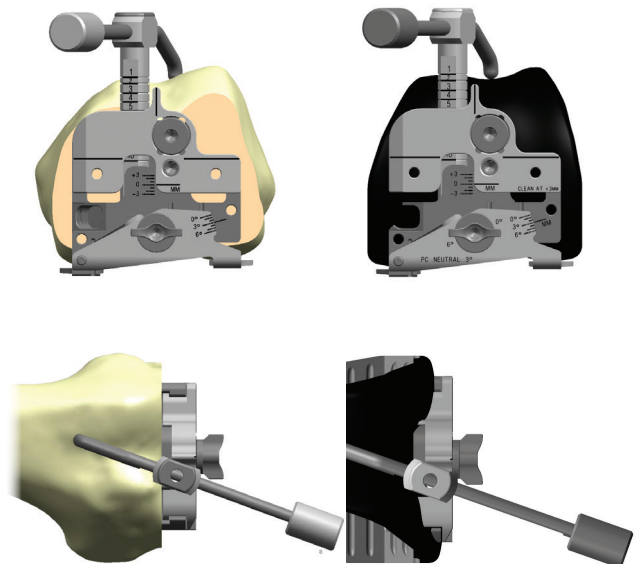

Figure 88
4. Insert the JOURNEY Sizing Stylus to the guide and estimate the A/P femoral size. Position the stylus tip just lateral of the anterior trochlear sulcus (Figure 88). If desired, use the indicated size Femoral Trial to compare the ML width before selecting which size A/P Cutting Block to use.